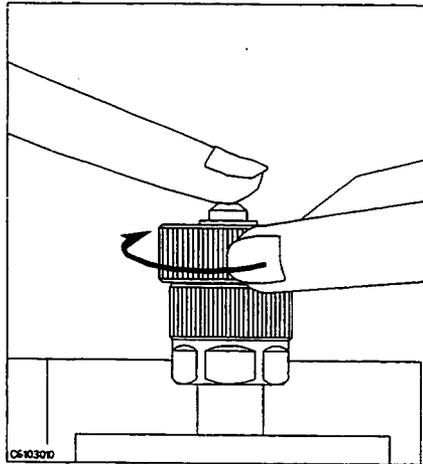

Figure 5-8.
8. Connect the 0 Ω termination on the APC-7[®] connector as shown in Figure 5-8.